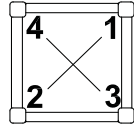

Fig. 5.1
- 3- Tighten all toggle bolts to 120 lb-ft (163 N-m) of torque. Use a cross pattern sequence when tightening (fig. 5.1).